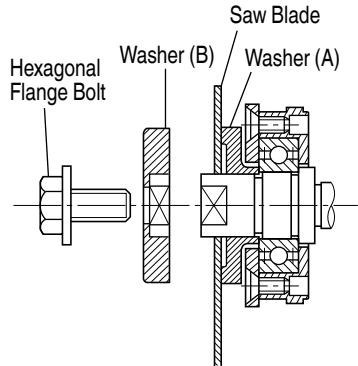

Fig. 17
- (1) Thoroughly remove any sawdust which has accumulated on the spindle, bolt and washers.
- (2) For mounting saw blade, the concave sides of both washers (A) and (B) must be fitted to the saw blade sides. Mount the saw blade on the spindle, and finally affix washer (B) (See Fig. 17)
- (3) To assure proper rotation direction of the saw blade, the arrow direction on the saw blade must coincide with the arrow direction on the blade cover.
- (4) Using the fingers, tighten the hexagonal bolt retaining the saw blade as much as possible. Then depress the lock lever, lock the spindle, and thoroughly tighten the bolt.
- (5) Confirm that the lock lever is in the original position.